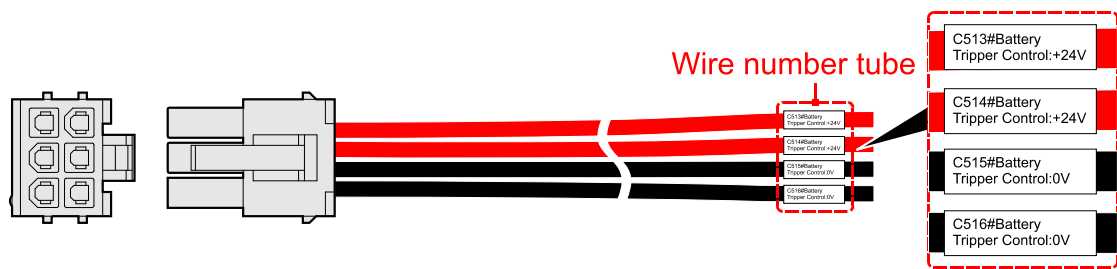

Figure3-62 Schematic of battery trip extension cable
- Step 3 Connect the extension cable (as shown in Figure3-62) to the client's battery trip unit according to the wire number tube markings.
- Step 3 Connect the external maintenance bypass status detection wire (as shown in Figure3-62) to the auxiliary contact of the maintenance bypass switch on the client's site, according to the wire number tube markings.